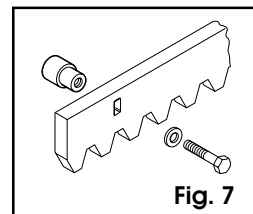

Fig. 7
1) Fit the rack by means of the screws TE 8x25 and the spacers provided, as shown in figure 7.